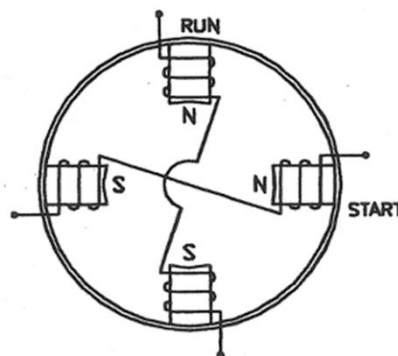

Figure 6 - Magnetic poles on the stator at a given instant.
15. The coil groups in each winding are connected so that magnetic poles will be formed on the stator. The polarity of the poles changes for every half cycle of the input voltage, and the polarity of the run winding poles in relation to the start winding poles will depend on the direction of current at that instant. Figure 6 shows a simplified representation of typical relative polarities of the poles in a 2 pole stator at a given instant.